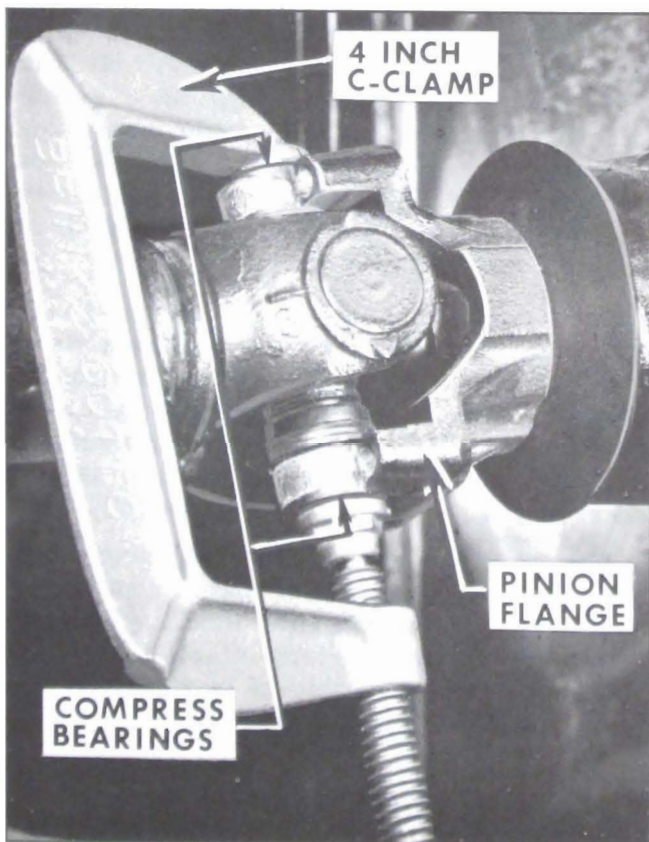

Figure 6-45—Using C-Clamp to Install a Universal Joint
5. Compress two loose bearings of rear universal joint toward each other using a 4 inch C-clamp. See Figure 6-45. This allows the bearings to seat in the pinion flange without the snap rings gouging the locating surfaces of the pinion flange while entering.